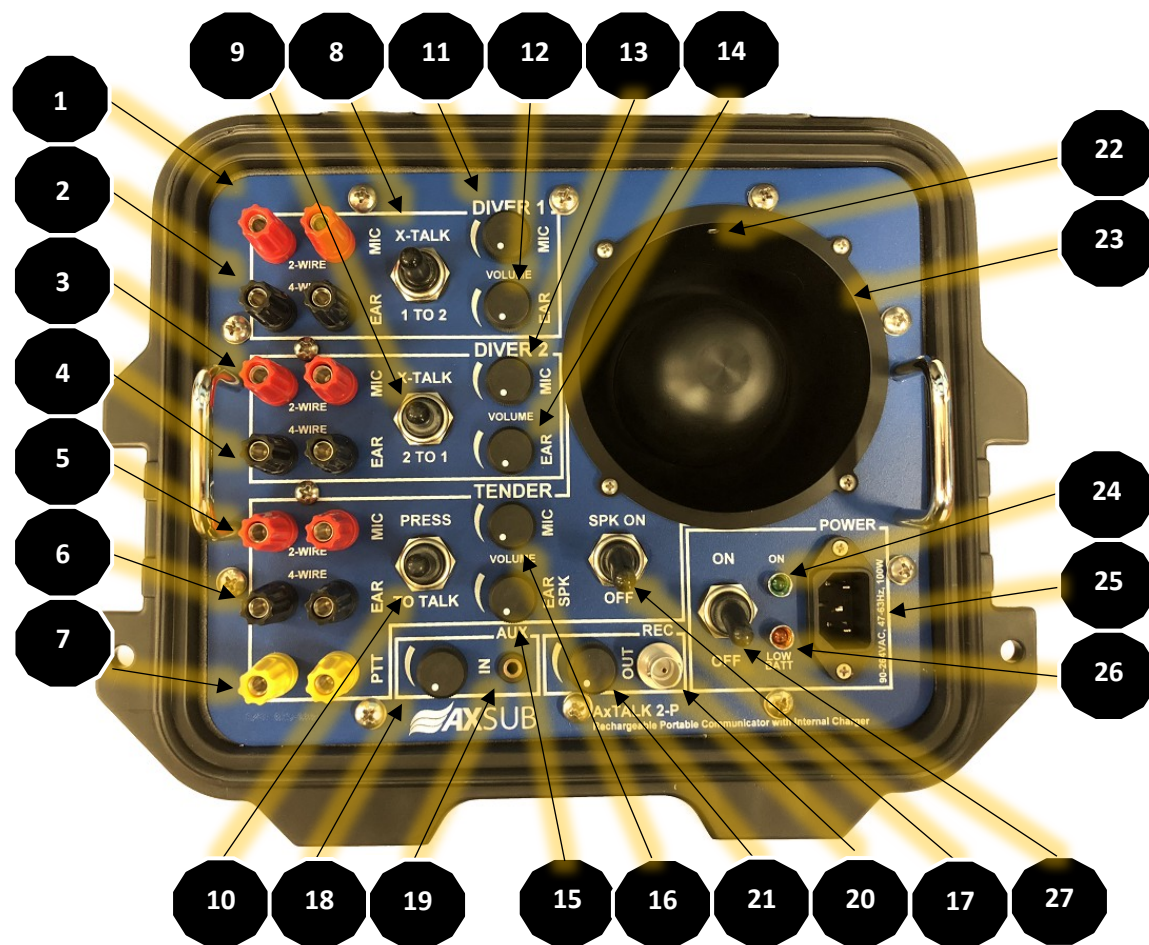

FIGURE 1 – AxTALK 2-P PANEL DESCRIPTION
See Figure 1 for a panel description.
A four-wire cable is required for all stations. Two of the wires are used for the microphone and two for the headset(s) and earphone(s). The diver earphones should be connected to the BLACK "EARPHONE" binding post on the surface unit for both divers (Fig 1 #2 and #4). The banana plug on the tender's headset should be connected to the BLACK "EARPHONE" banana plug (Fig 1 #6). The tender's microphone should be connected to the RED banana plug labeled "MICROPHONE" (Tender's section). The diver's microphone should be connected to the "MICROPHONE" RED banana plug in the Diver's section of the AxTALK 2-P. When in the four-wire mode, everyone is online together. It is similar to a telephone conference call.
If the Tender prefer use the Push-to-talk switch on the AxTALK 2-P (Fig 1 #10) when need to talk to the divers, he must connect his microphone AND headphone to the BLACK binding posts only (Fig 1 #6). If the Tender prefer use the Push-to-talk switch on the external microphone (hand microphone or headset with integrated PPT button), then he must connect his microphone on the YELLOW banana plug labeled "PPT" (Tender's section). AND headphone to the BLACK binding posts (Fig 1 #7).
- 2) When in the four-wire mode, you must use a headset with a boom microphone, and the Diver Select switch must be in the "BOTH" position. If feedback is present, switch of the front panel speaker (Fig. 1, #7).